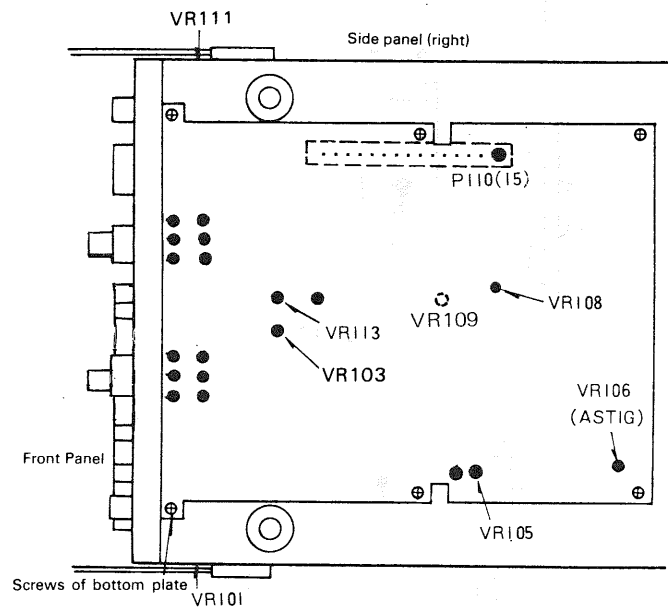

Fig. 39
2. Adjust VR109 on the lower circuit board so that 180V appears on the No. 15 pin of the connector P110 on the same circuit board. (see Fig. 39)
2. Adjust VR108 on the lower circuit board through so that bright line disappears at 9 ~ 11 o'clock position of the brightness adjustment knob. (see Fig. 39)
Step ATT DC BAL Adjustment (see Fig. 39):
3. With a bright line displayed, adjust VR105 on the same circuit board so that the bright line comes to the vertical center position. (see Fig. 39)
ASTIG Adjustment (see Fig. 39)